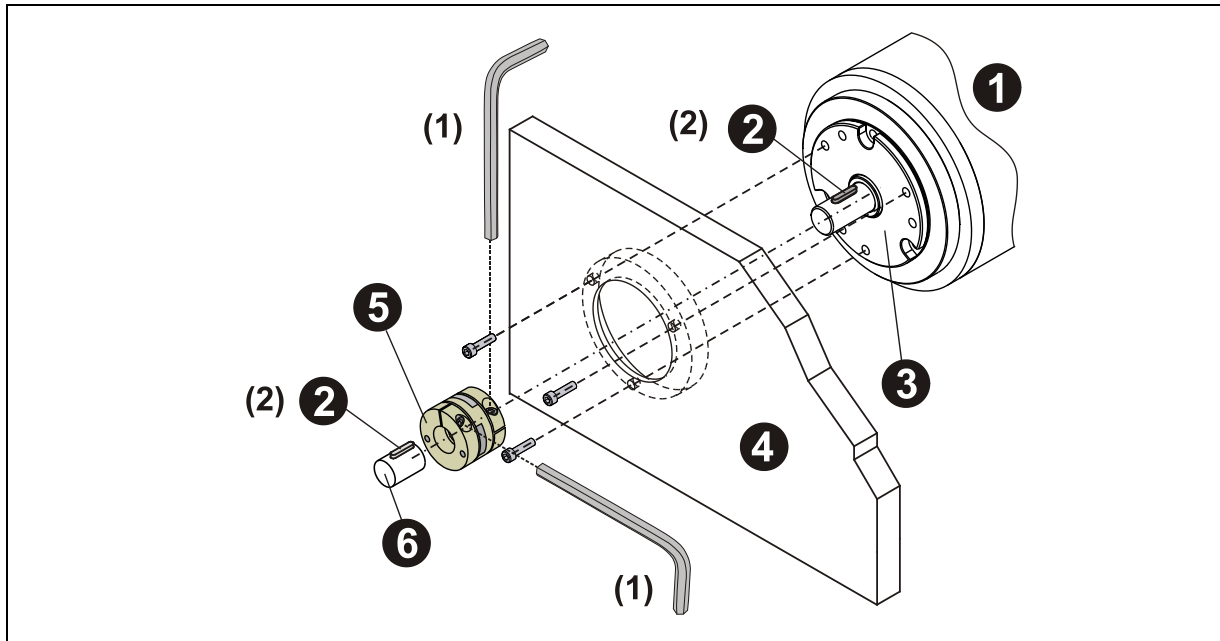

Figure 2: Installing the flange, illustration showing the principle
- Axial slipping of the measuring system on the drive shaft must be prevented by fixing the coupling in position, see Figure 2, (1).
- Radial slipping of the measuring system on the drive shaft must be prevented by a form-locking connection, using a parallel key / groove combination (Figure 2, (2)); a coupling with groove must be used for this purpose.